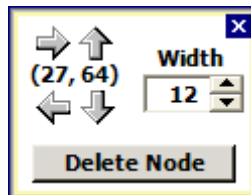

Figure 6.8 – Edit Node Popup
2. Click on the selected lane in the vicinity of the desired node to bring up the Edit Node popup (see Figure 6.8).